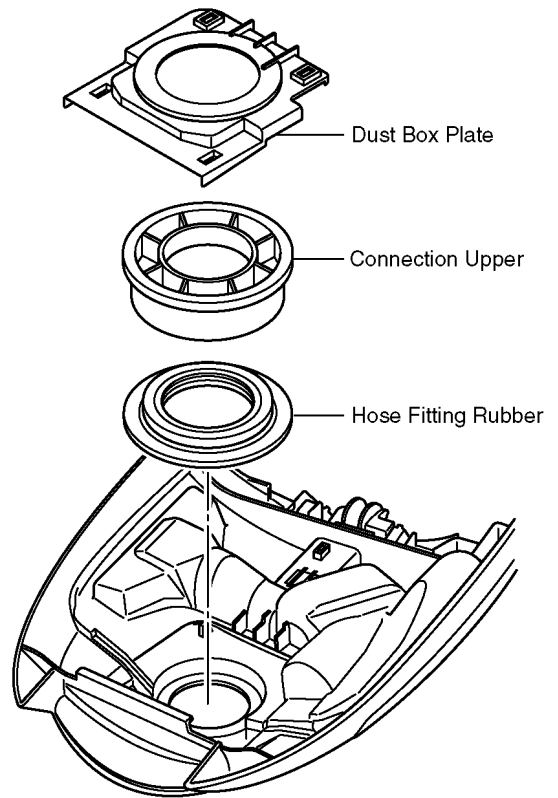

Fig.6
2. Set the upper connection on the rubber hose fitting. (Fig.6)